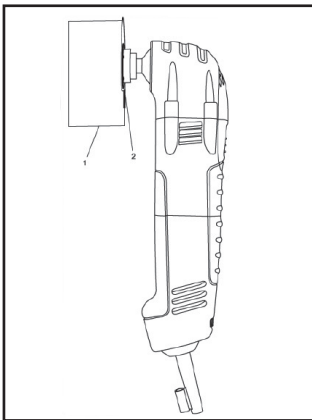

Fig. 9
2. Place the outlet box on the drywall and use a soft lead pencil to trace the required rectangular hole (1) on the drywall (Fig.9)